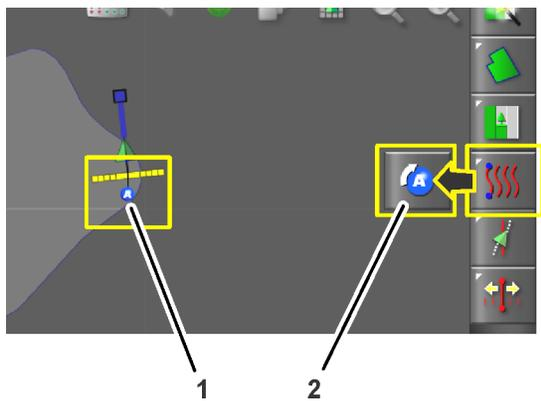

Figure 16
5. Press the Set Point A icon (Figure 16).